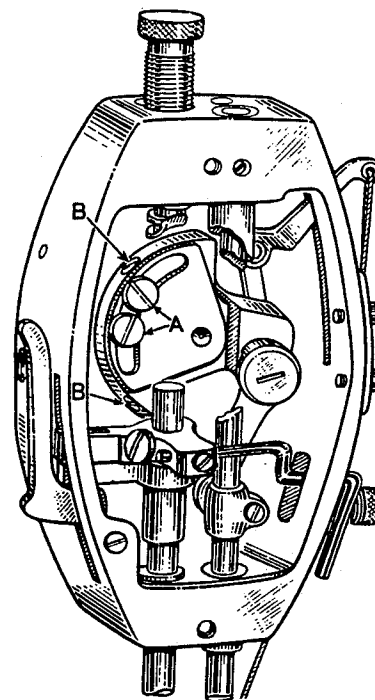

Fig. 23
2. Loosen the two screws (A, Fig. 23) holding the counterweight to the segment plate, and the two screws (B) holding the counterweight to main shaft.
3. Hold handwheel and turn the counterweight in a clockwise direction to retard the feed and a counterclockwise direction to advance the feed. The two screws (A) holding the counterweight to the segment plate will be moved toward either end of segment plate slot, depending on whether the feed timing was advanced or retarded.